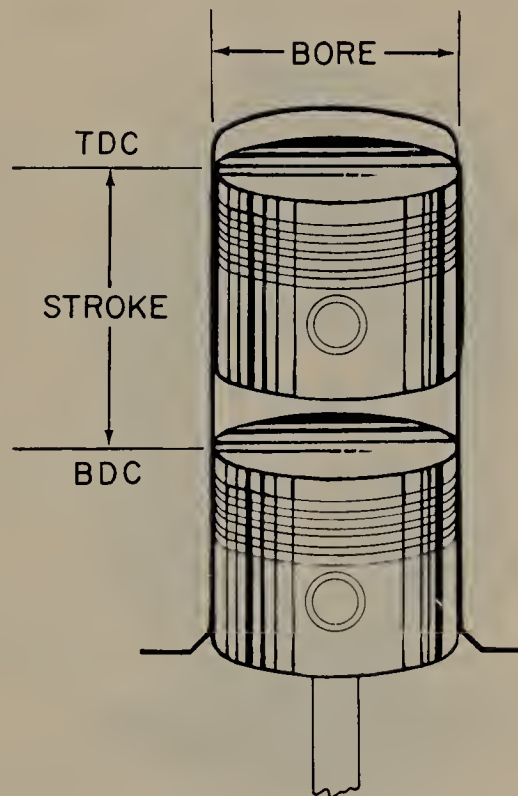

FIGURE 3.14 The bore and stroke of an engine cylinder.
3.7 The Piston Stroke. In any piston engine, the movement of the piston from one limiting position to the other is called a *piston stroke*. The upper limiting position of the piston is called *top dead center* (TDC), and the lower limiting position is called *bottom dead center* (BDC). Thus, a piston stroke takes place when the piston moves from TDC to BDC or from BDC to TDC (Fig. 3.14). When the piston moves from TDC to BDC, after combustion has taken place, the stroke is the *power stroke*. The high pressure of the explosion, forcing the piston to move during the power stroke, results in power from the engine.